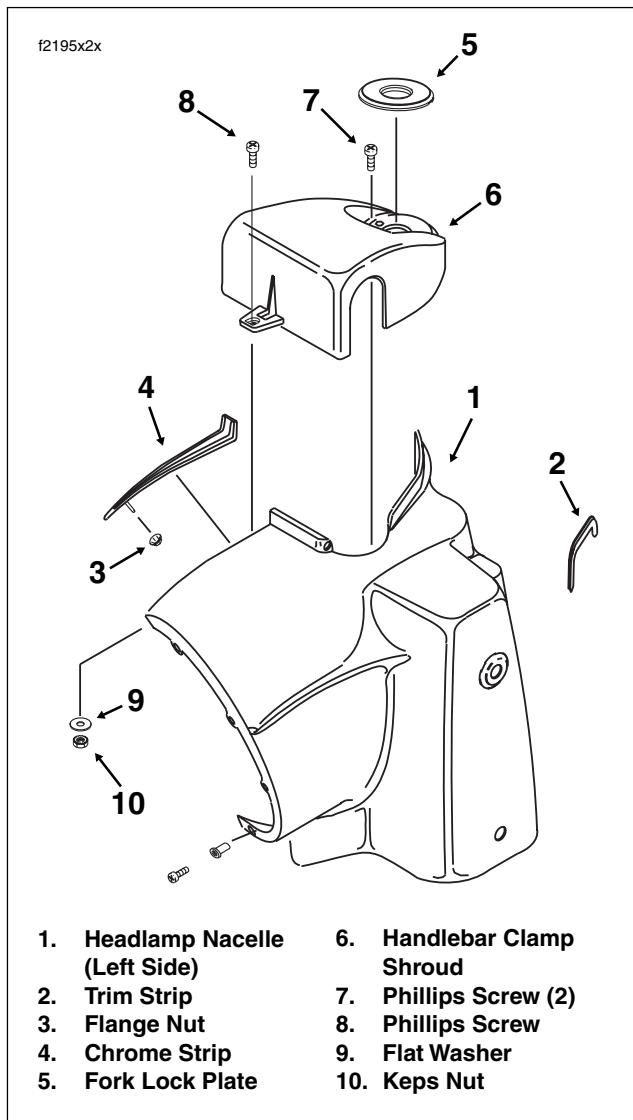

Figure 2-184. Headlamp Nacelle Assembly
5. Reaching inside the headlamp nacelle, remove the flange nut to release the chrome strip at the top of the nacelle. See Figure 2-184.